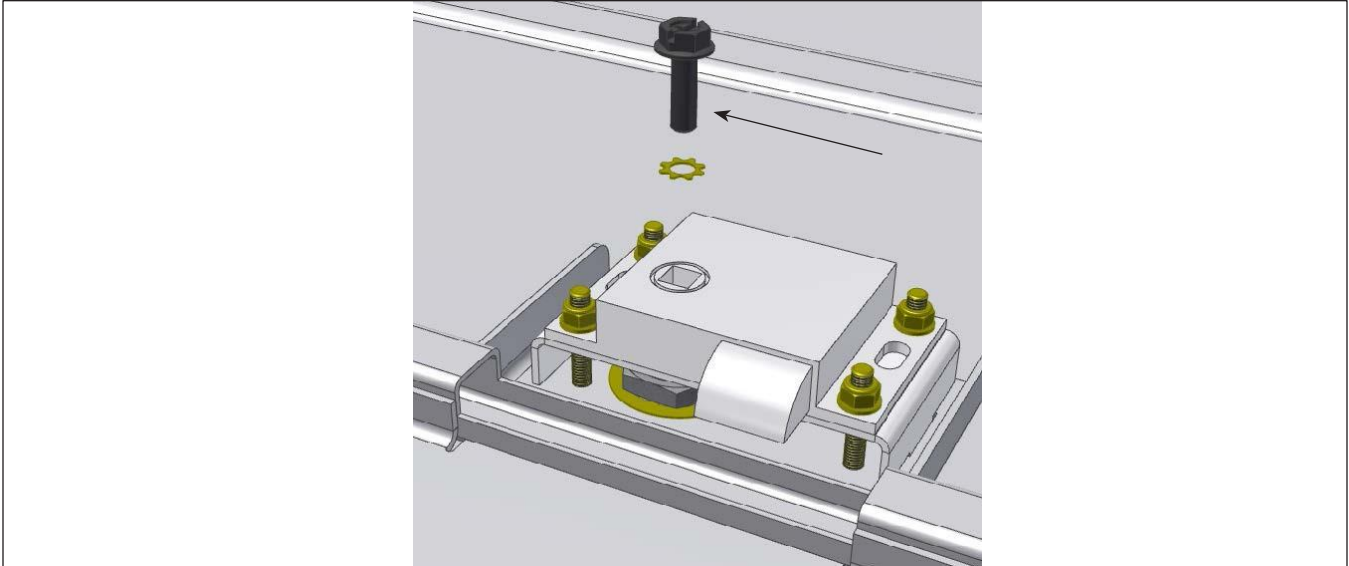

Figure 4 - Remove Bolt for the Turn Key
- 2.2. Installation is the opposite of removal. Torque the retained bolt shown in figure 4 to  $2.95 \pm 0.4$  lb-ft ( $4 \pm 0.5$  N·m). Apply a torque seal.